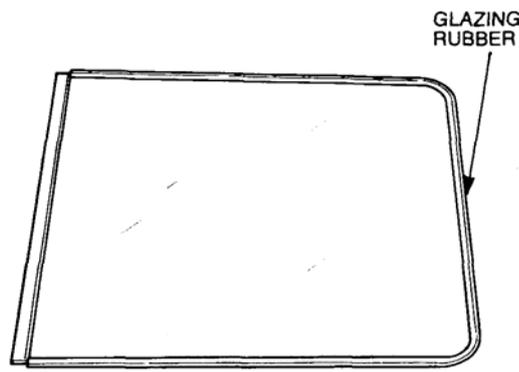

**Figure 41 Window Catch Removal**
- n. Remove the screw securing the window catch to the sliding window (refer Figure 41).